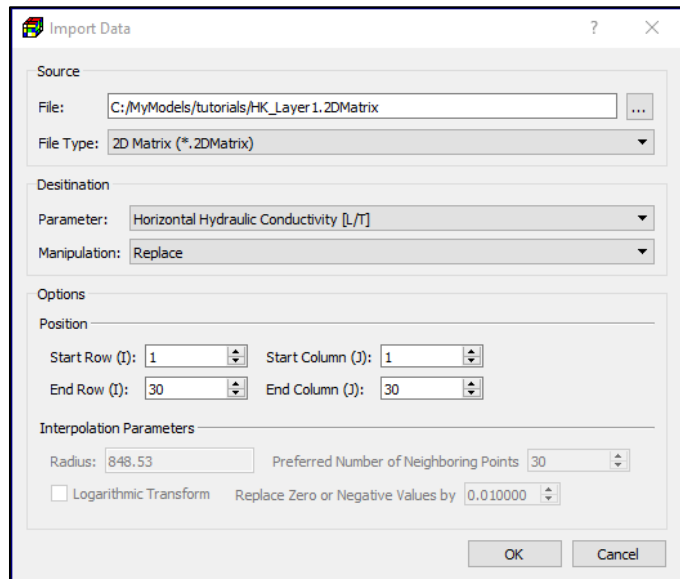

Figure 33. The Import Data dialog box
4. **Import:** Open the Import Data dialog box (Figure 33) that allows you to import cell values from several types of files.